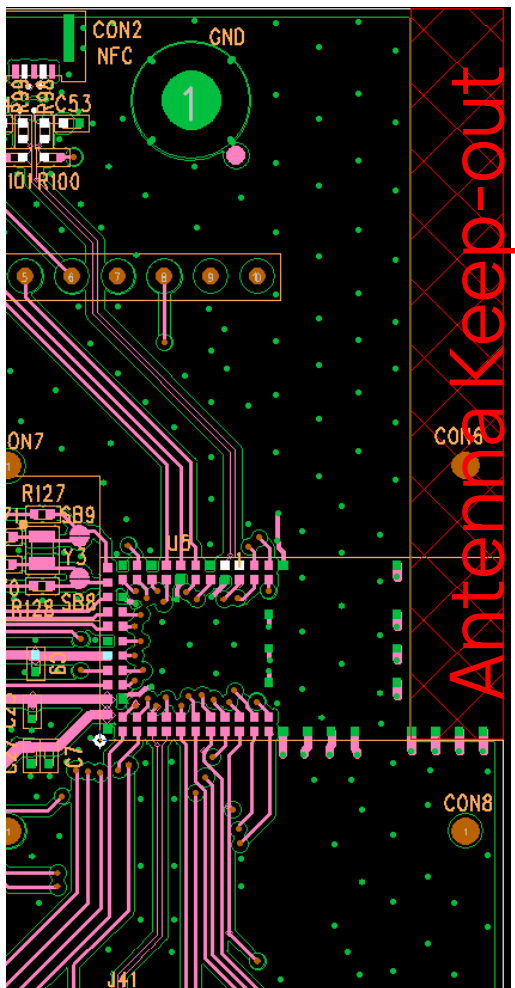

Figure 9: PCB trace Antenna keep-out area (shown in red), corner of the BL654PA development board for the 453-00020 module.
- The BL654PA development board has the 453-00020 module on the edge of the board (not in the corner). The antenna keep-out area is defined by the BL654PA development board which was used for module development and antenna performance evaluation is shown in Figure 9, where the antenna keep-out area is ~5 mm wide, ~39.95 mm long; with PCB dielectric (no copper) height ~1 mm sitting under the 453-00020 PCB trace antenna.
- Host PCB land pattern and antenna keep-out for the BL654PA applies when the 453-00020 is placed in the edge of the host PCB preferably in the edge center. Figure 9 shows an example.